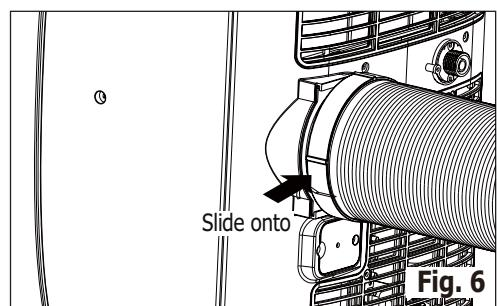

Fig. 6
3. Slide the assembly onto unit (Fig. 6).